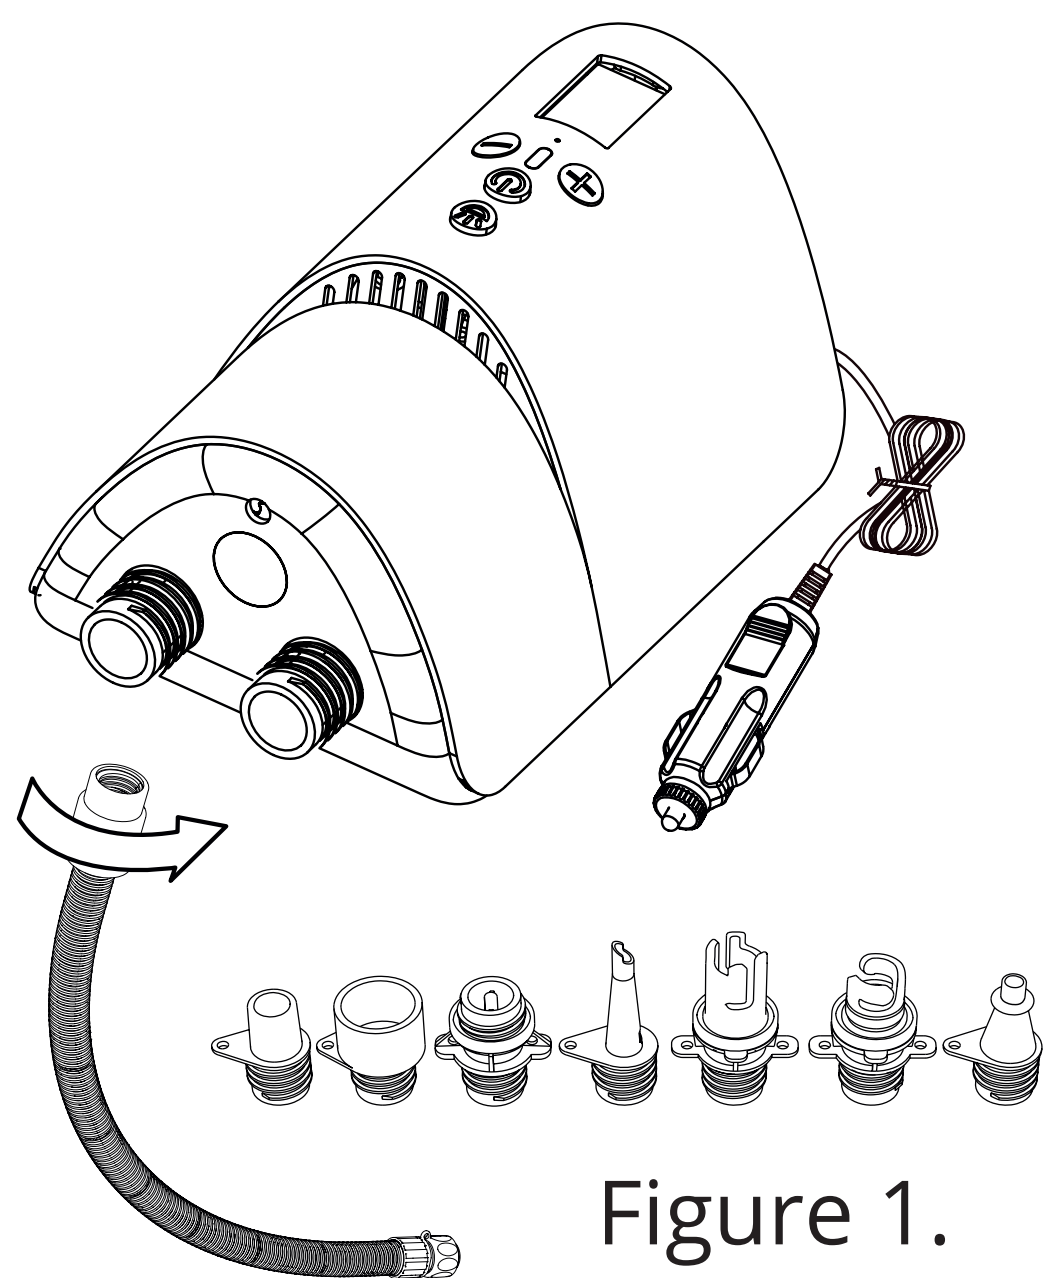

Figure 1.
- Attach the end of the air hose to the inlet or outlet of the pump (1) and turn it clockwise to tighten. As shown in figure 1.